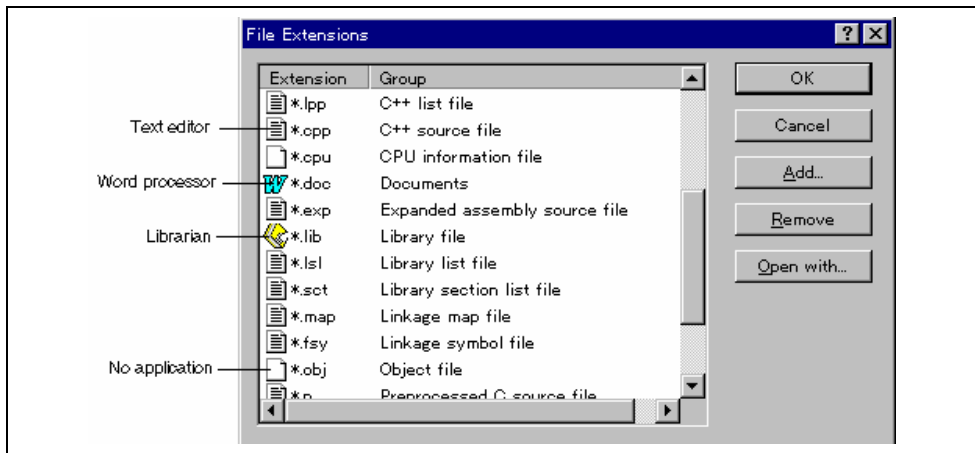

Figure 2.11: File Groups and Applications
In addition to opening a file with the editor, the “File Extensions” dialog allows you to associate any application with any file group so that when you double click on a file in the “Projects” tab of the “Workspace” then the appropriate application is launched with the file. Figure 2.11 shows the association between a word processor and the extension .DOC.
1. Select the file group to be associated from the “File Extensions” dialog (figure 2.11).